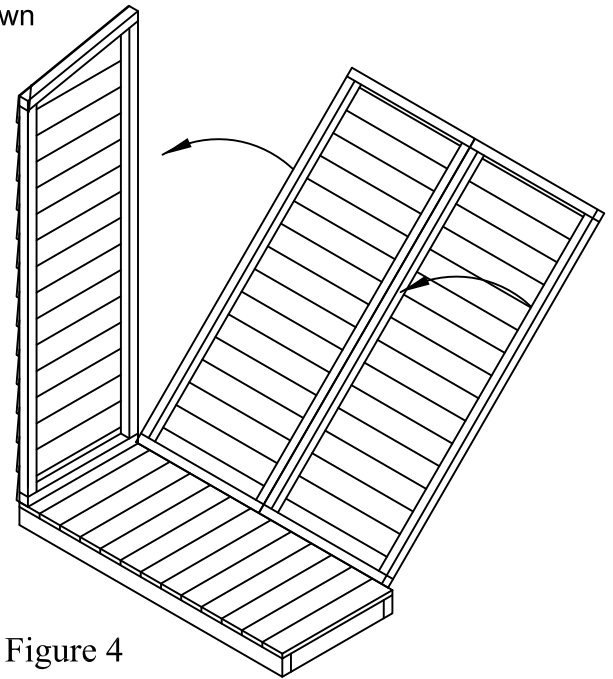
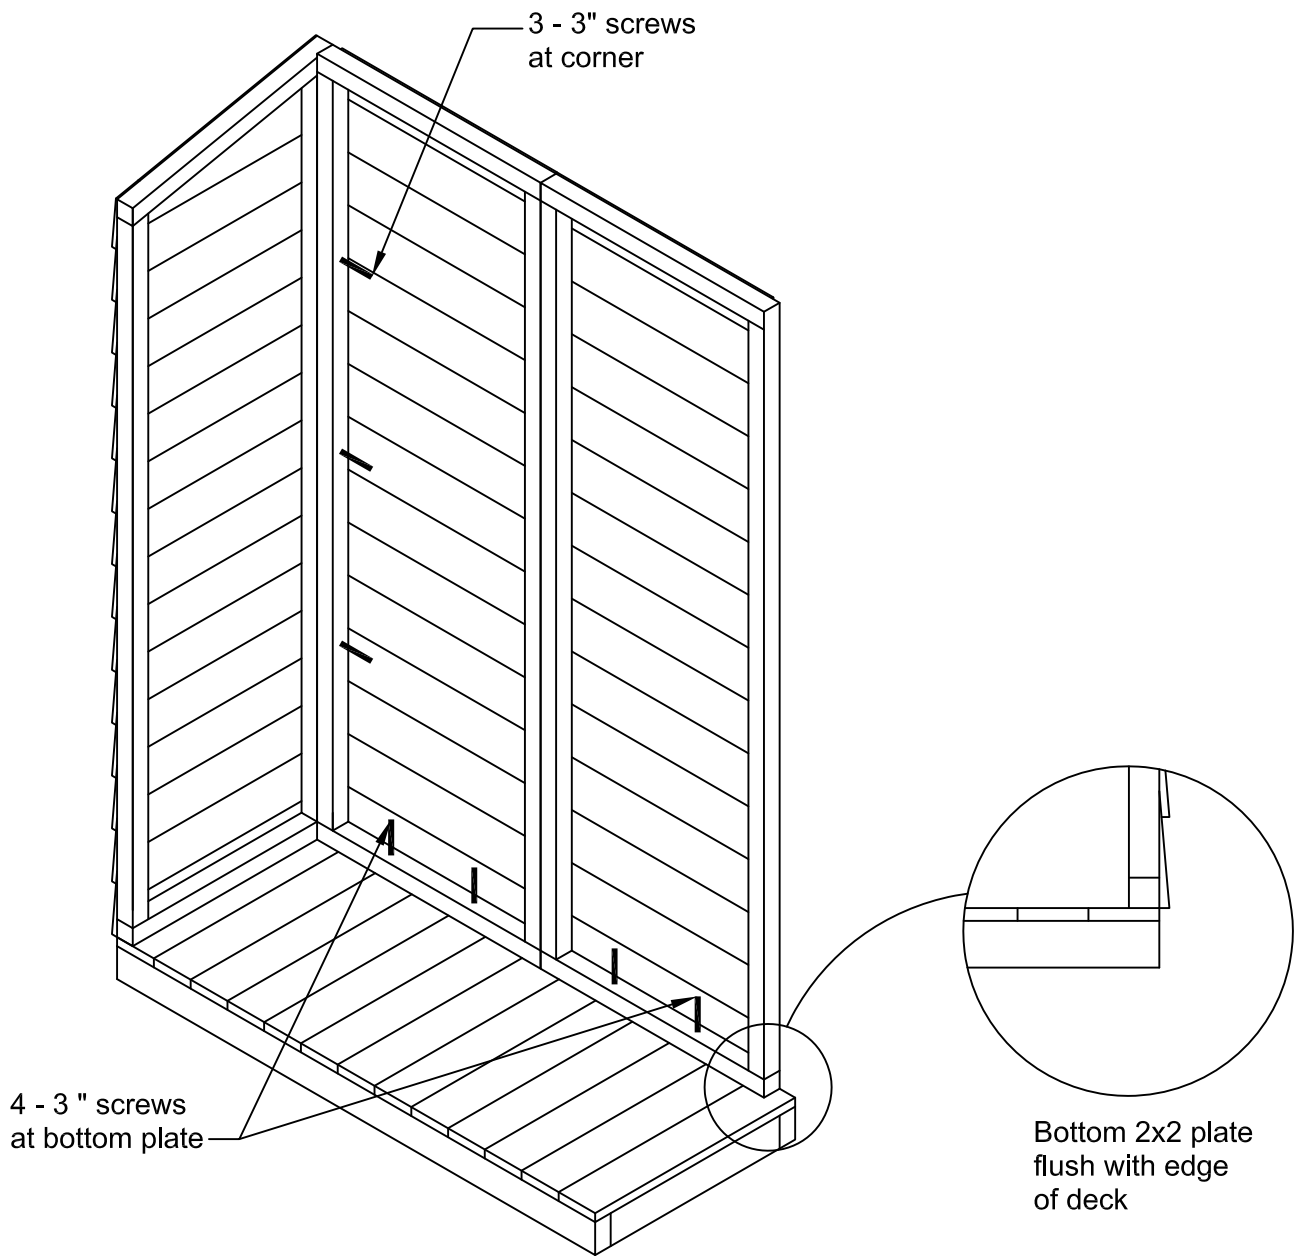

Figure 4
Figure 5
4. Now, lift the assembled rear wall onto the floor as shown in Figure 4. Ensure that the side panel 2x2 is flush with the rear face of the rear panel. Also, the 2x2 floor plate should sit flush to the rear of the floor. Use 3 - 3" screws to fasten back walls to the floor. (Figure 5).